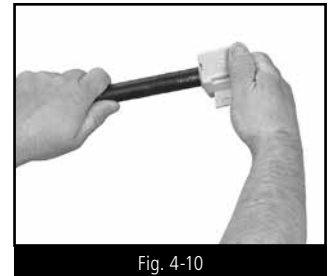

Fig. 4-10
STEP 2 CUT & STRIP JACKET LAYERS (FIG. 4-9, FIG. 4-10, FIG. 4-11)